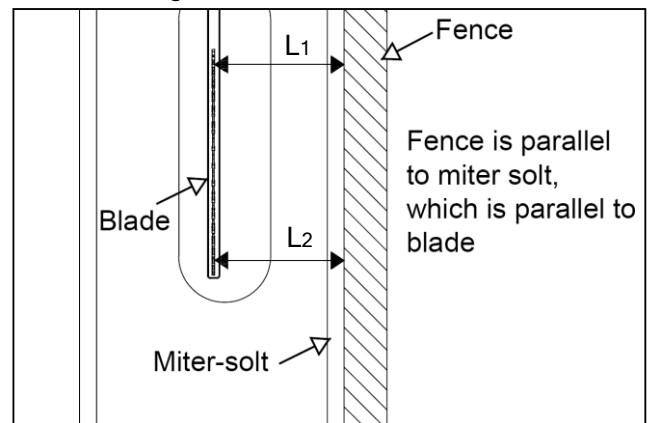

Fig. 11
3. Check the fence parallelism and perpendicularity (Fig.11)
As shown in Fig.11, after securing the fence, ensure that the fence is parallel to the miter slot, which is parallel to blade at any locations. And make sure that the distance $L_1 > L_2$, $L_1 - L_2 < 1/64$ ", which creates a slightly larger opening between the